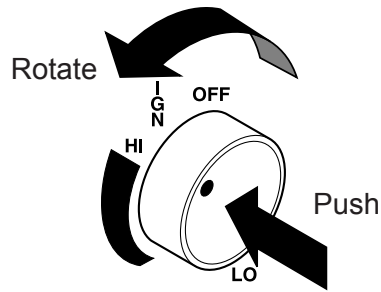

Figure 46 - HIGH Position
10. Push in control knob and turn counterclockwise to the HIGH setting. At this location the control knob will pop out when positioned correctly. The knob can now be positioned at any position between HIGH and LOW. Refer to *Figures 46 and 47*.